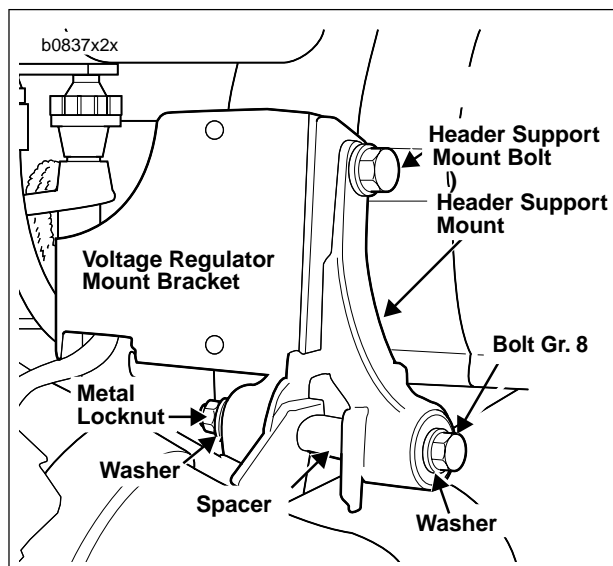

Figure 2-93. Header Support Mount
3. See Figure 2-93. Remove bolts and locknuts with washers from header support mount.
3. See Figure 2-93. If removed, attach header support mount to crankcase.
7. See Figure 2-93. Secure muffler to header support mount with bolt, locknut and washers. Tighten to 22-24 ft-lbs (30-33 Nm).